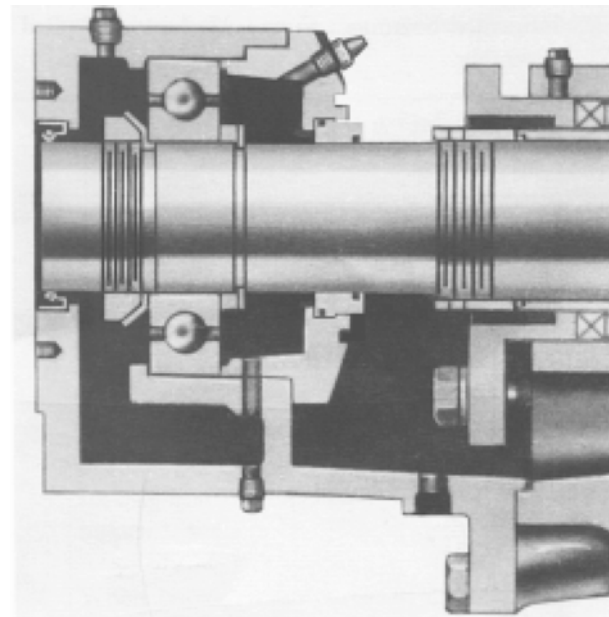

FIGURE 16 - GREASE LUBRICATED BEARING HOUSING
9. Press bearing isolators (1-333-1) in each bearing cover. (See Figure 16) Install gaskets (3-409-9) on each bearing cover.